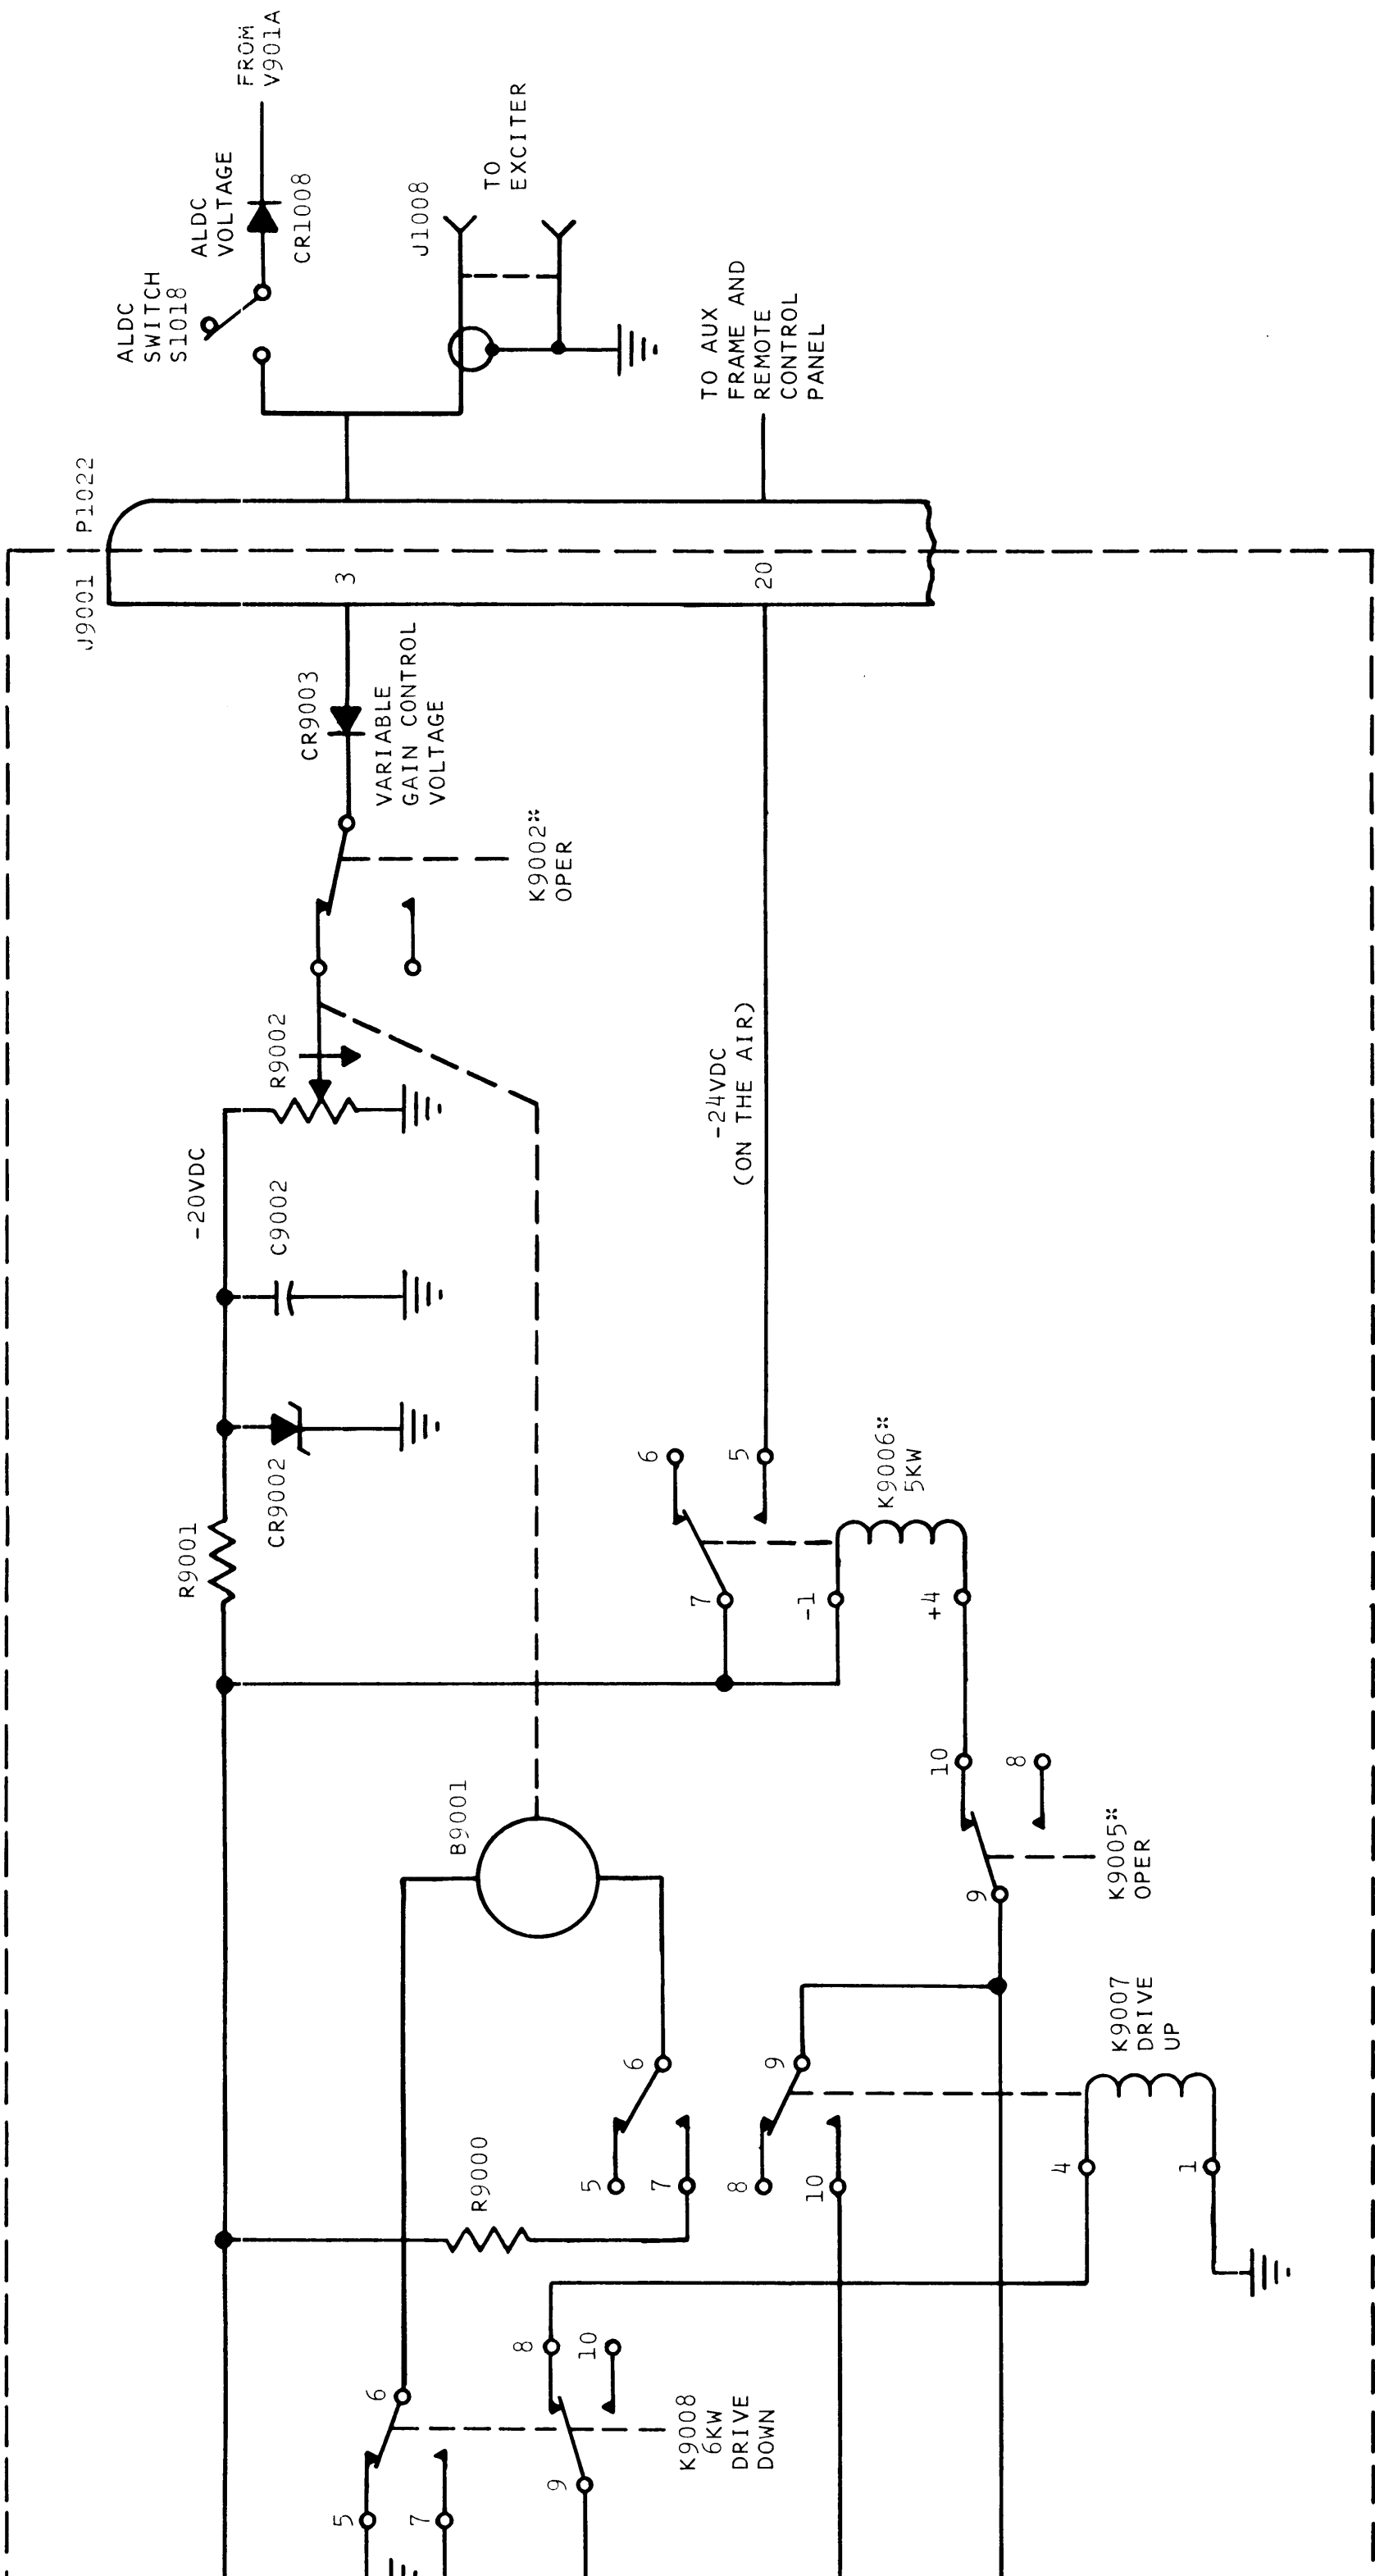

Figure 2-19. LLC During Lower Power Limit
(1) General. - There are three conditions which may cause the motor in the LLC to drive in a lower power direction. These are as follows: one, the upper power limit of the transmitter is reached due to excessive high drive peaks which may develop during multiple signal transmission; two, an overload condition exists in the diode overload circuitry of Relay Panel AR-176, and three, the transmitter fails to reach its lower power limit due to an operational failure. These three conditions will be separately described in the order given.
(2) Functional Analysis (See Figure 2-19). - The amplitude of the signal voltage developed by the 10-kw power amplifier is measured by PA OUTPUT meter M1006. Assuming that an overload condition exists due to excessive high levels of signal transmission, the resultant output from the power amplifier drives the moving pointer on meter M1006 towards its upper power limit. When the upper power limit is reached, the moving pointer and the upper power limit pointer on the meter are in correspondance. When both pointers are in correspondance, the output of a photo-electric circuit is interrupted and a relay in Meter Relay Network Z900 is energized. A ground path is then enabled, conditioning relay K9004 to latch in the drive-down position, which in-turn conditions 6KW drive-down relay K9008 to energize. Relay K9008 when energized, provides power to drive motor B9001 in the lower power direction. The motor will continue to operate in the drive-down direction until the lower power limit is reached. At this point, the photo-electric circuit controlling the lower power limit is interrupted, this time causing a relay in Meter Relay Network Z900 to deenergize. With the relay disabled, relay K9004 is conditioned